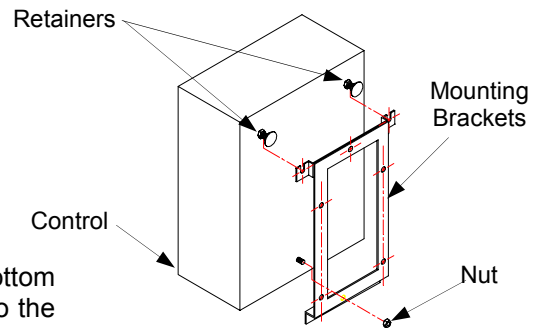

Figure 4
6. Secure the mounting bracket to the manifold control unit by sliding the round retainers on the back of the cabinet into the slots on the bracket. Place the nut on the bolt which protrudes from the case and tighten lightly. This bolt only stabilizes the bottom of the unit and is not load-bearing (the nut is shipped threaded to the bolt). (Figure 4)